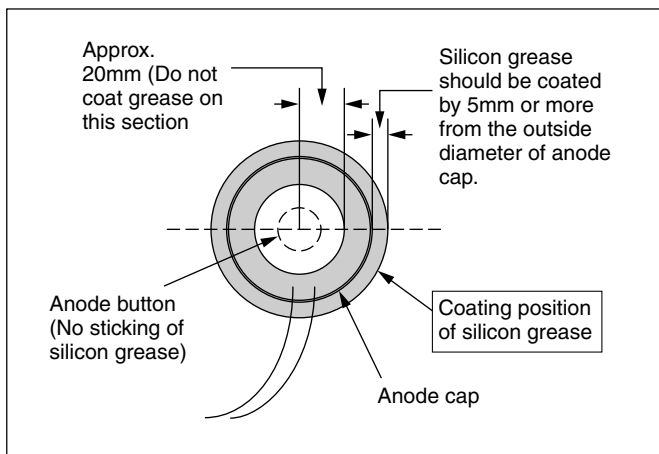

Fig. 7
- 2. Coat silicon grease on the section around the anode button. At this time, take care so that any silicon greases dose not sticks to the anode button. (Fig. 7)